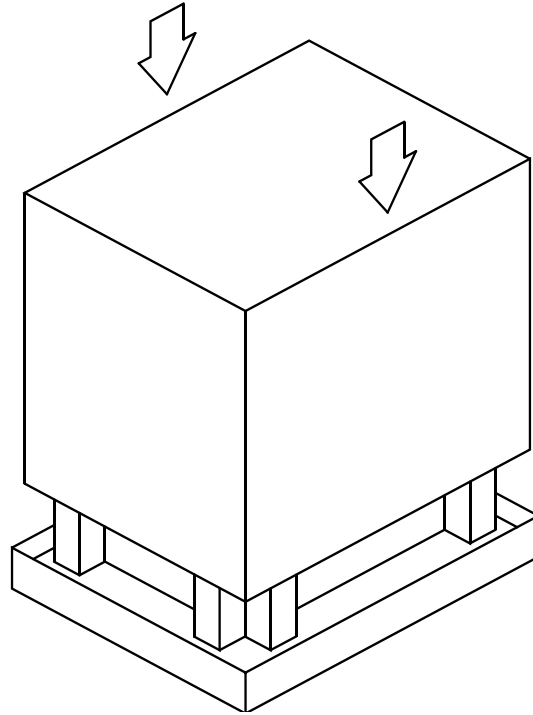

Figure 7-9 Placing the carton over the library
8. Place the carton over the library, as shown in Figure 7-9, and tape the box shut.